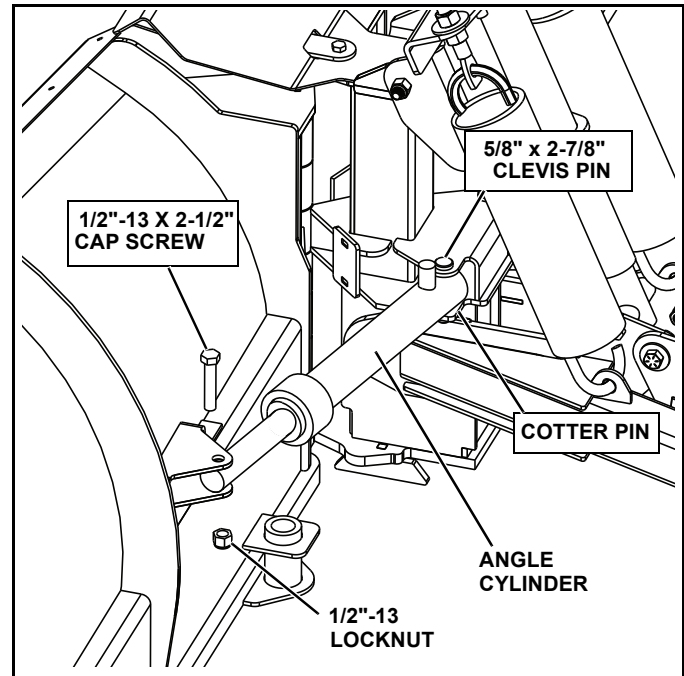

Figure 1-6
11. Attach angle cylinder base to tower with a 5/8" x 2-7/8" clevis pin. Insert cotter pins into clevis pins. Attach angle cylinder rod to blade with a 1/2"-13 x 2-1/2" cap screw and 1/2"-13 locknut. (See Figure 1-6.) Repeat for opposite angle cylinder.